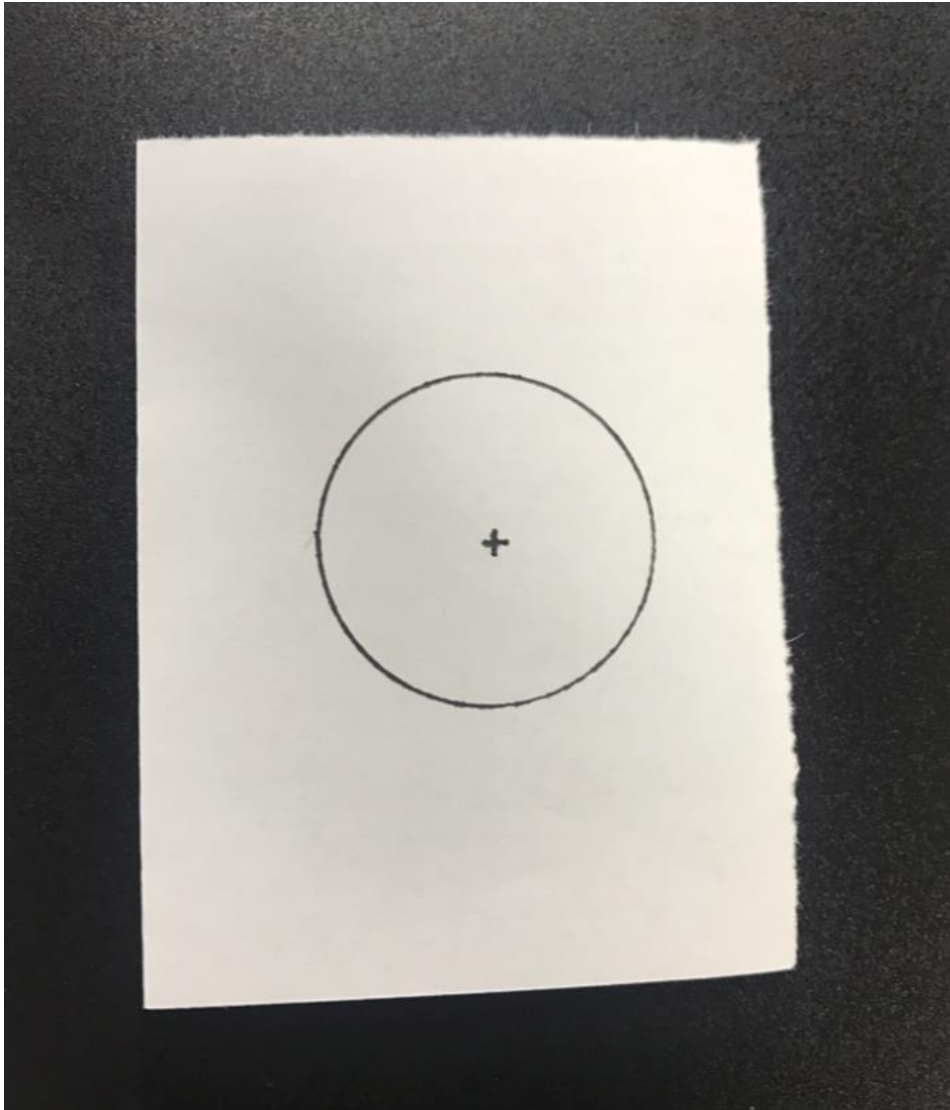

Figure 3.11 Put down a label on the conveyor
1. Put down a label on the conveyor, as shown in Figure 3.11.